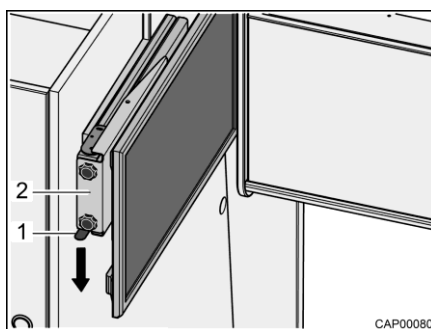

Fig. 45 Pull-out with flat screen
- Press catch spring (Fig. 45,1) downwards and pull pull-out (Fig. 45,2) with flat screen out horizontally towards the centre of the vehicle.
- Push the pull-out (Fig. 45,2) with flat screen horizontally as far as it will go. The catch spring (Fig. 45,1) engages audibly.